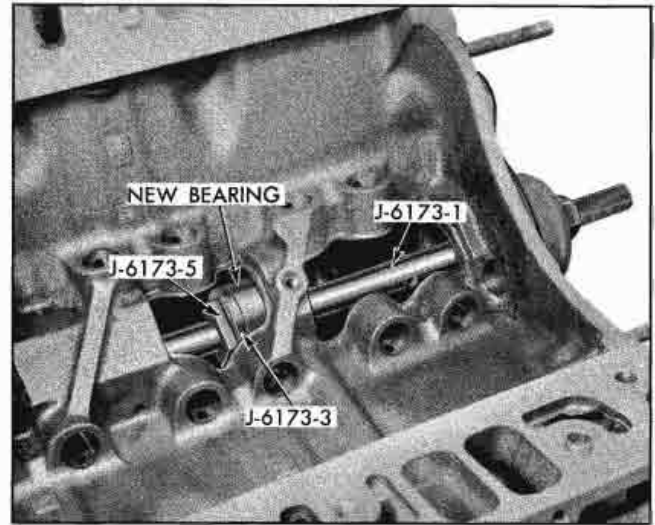

Fig. 6-57 Preparing to Install Camshaft Bearing
5. Position replacer adapter J-6173-3, with bearing in position against shoulder, against rear of hole in which bearing is to be installed (Fig. 6-57). Index mark on shoulder of replacer must point down (toward crankshaft side) to properly position bearing.
7. Slip key J-6173-5 into notches in shaft behind replacer adapter J-6173-3 and tighten nut to start bearing into hole (Fig. 6-57). Continue to tighten nut until bearing has been pulled completely into its hole. When properly positioned, it will be approximately flush with both sides of the transverse member.